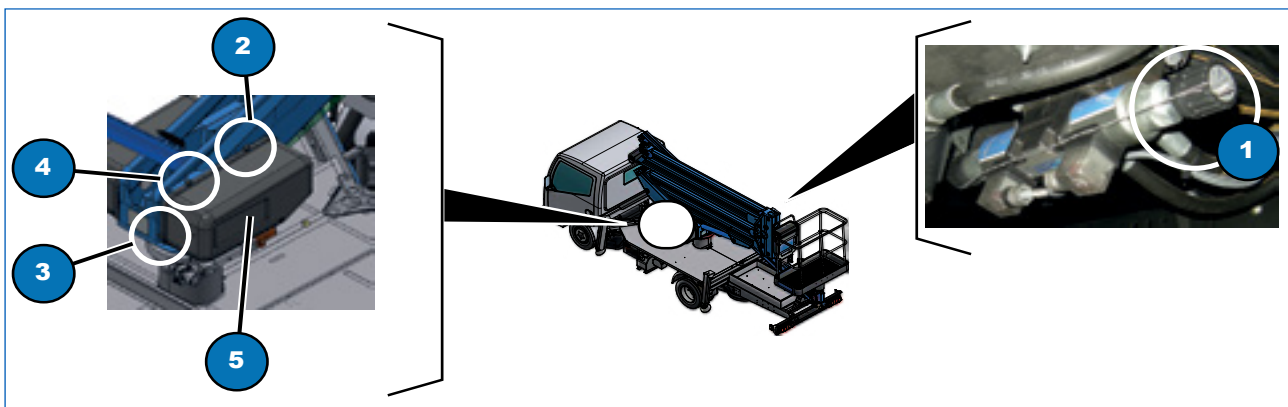

Fig. 7.4
- 3) unfasten the "stabiliser/work platform control" diverter valve (Fig. 7.4 1) located close to the stabiliser controls;
- 4) completely remove the carter in the turret by unscrewing the black locking knobs (Fig. 7.4, 2, 3, 4);
- 5) lower the platform to the ground following the indications shown in the diagram on the label (Fig. 7.4, 4) above the cover: